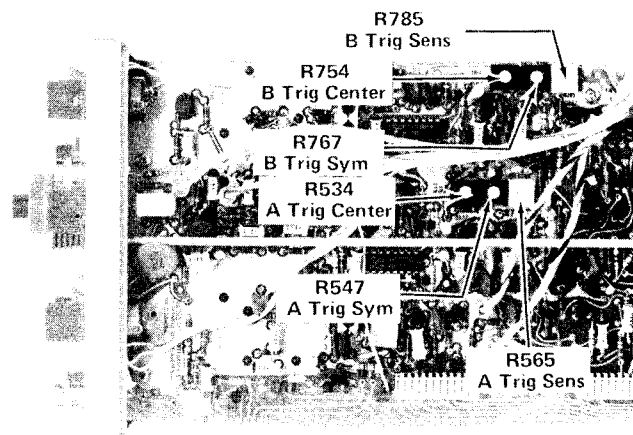

Fig. 5-20. Location of Trigger Sensitivity, Symmetry, and Centering adjustments.
g. ADJUST-A Trigger Sensitivity adjustment, R565, (see Fig. 5-20) so that a stable display can just be obtained by rotating the A LEVEL control.
e. ADJUST-B Trigger Sensitivity adjustment, R785 (see Fig. 5-20) so that a stable display can just be obtained by rotating the B LEVEL control.
e. ADJUST-B Trigger Symmetry adjustment, R767 (see Fig. 5-20), so that the trace begins at the same point in both slopes of the displayed waveform.
f. ADJUST-B Trigger Centering adjustment, R754 (see Fig. 5-20), for the trigger point of the display to be at the graticule center.
c. ADJUST-A Trigger Symmetry adjustment, R547 (see Fig. 5-20), so that the trace begins at the same point in both slopes of the displayed waveform.
d. ADJUST-A Trigger Centering adjustment, R534 (see Fig. 5-20), for the trigger point of the display to be at the graticule center.